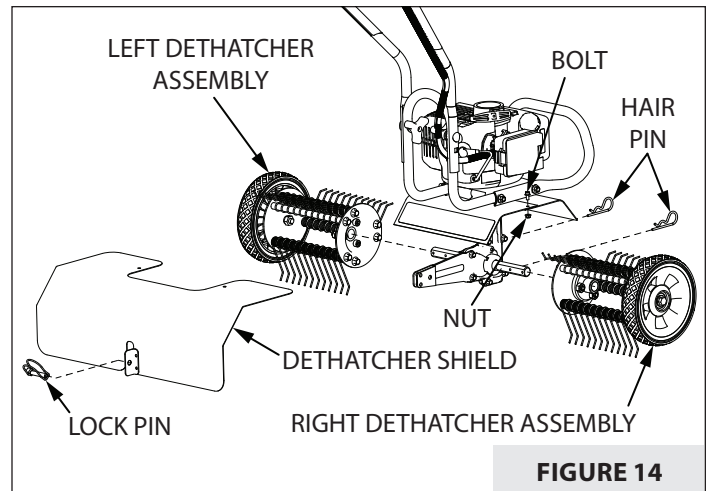

FIGURE 14
3. Slide dethatcher shield over the unit's tine shield from the rear of the unit and secure using bolts and nuts from cultivator tine shield. **SEE FIGURES 14 and 15.**
6. Slide the left and right dethatcher assemblies onto the tine shaft making sure the right assembly is installed on the right side and Left assembly is installed on the left side as defined from the user's position. **SEE FIGURE 14.**